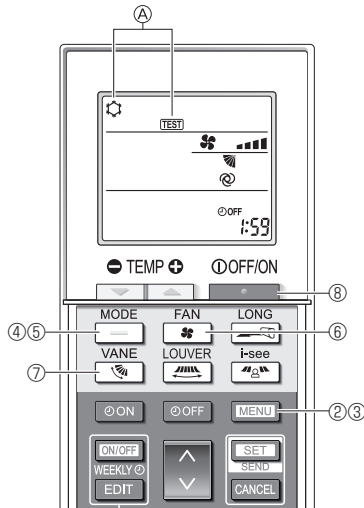

Fig. 7-9
- ① Turn on the power to the unit at least 12 hours before the test run.
- ② Press the **[MENU]** button for 5 seconds. (Fig. 7-9)
A [TEST] and the current operation mode are displayed. (Fig. 7-9)